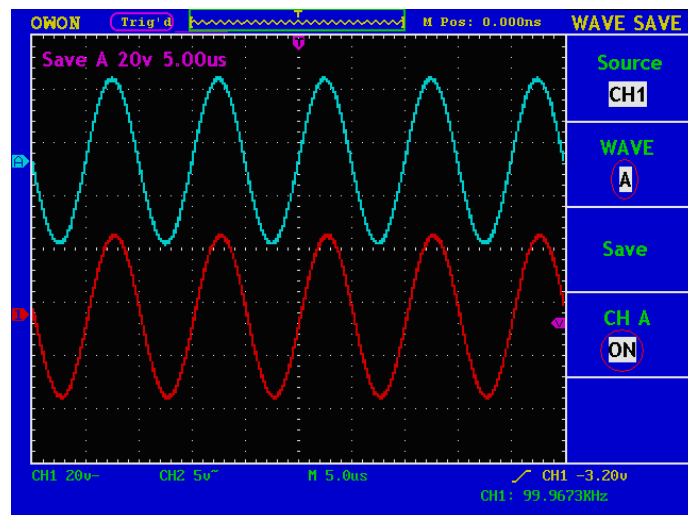

Fig.5-38 Wave Saving
- Press **F2** next to Wave to select from one of four locations, the CH(X) would show the location you've chosen.
- Press **F4** next to CH(X) to change to ON. Now you will see a stored waveform displayed on the screen with whatever waveforms are already on there.
- Example to save/recall a waveform from location A. Fig.5-38.